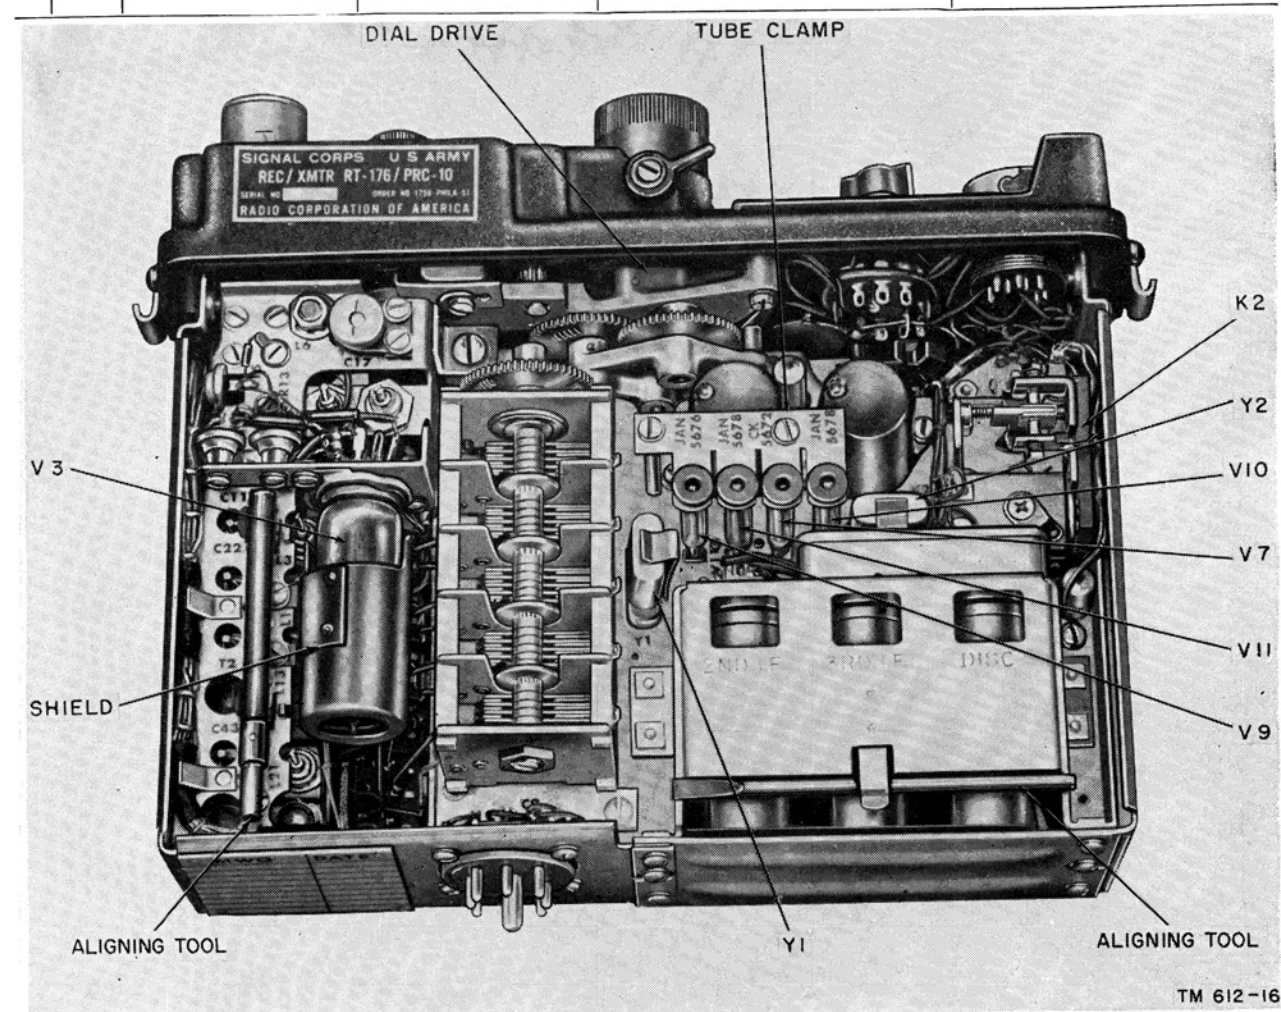
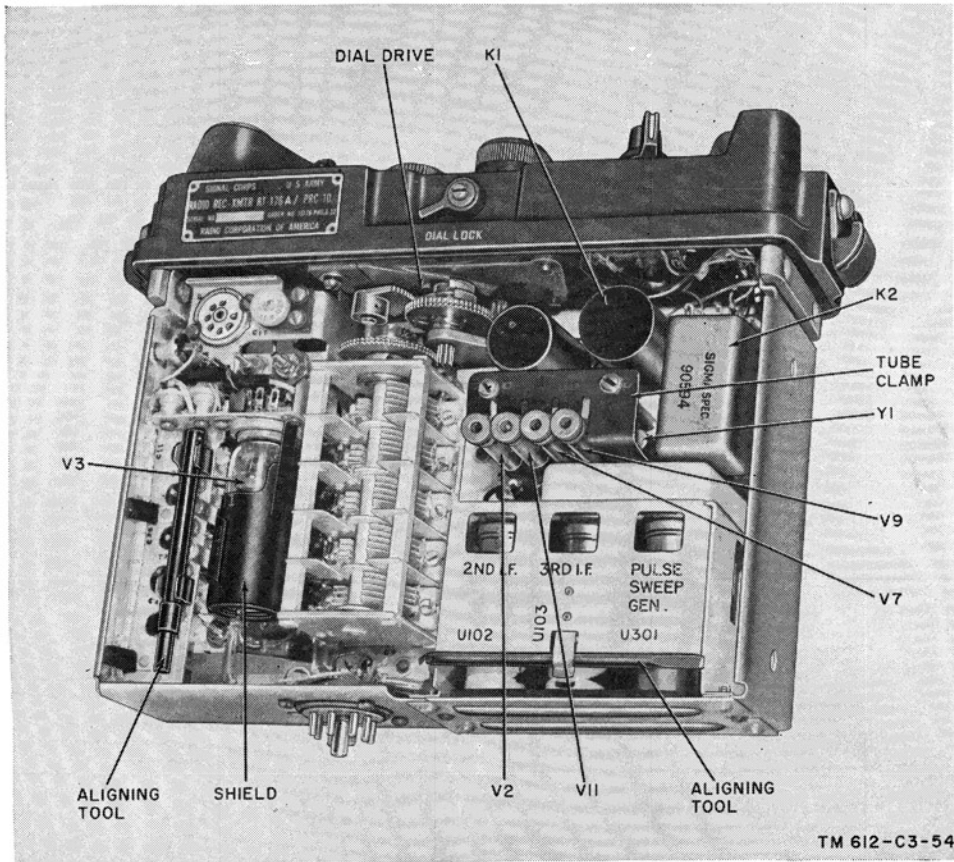

Figure 26. Receiver-transmitter chassis (unlettered models), bottom view.
Figure 28. Receiver-transmitter chassis (A models), bottom view.
d. *Corrective Measures.* The corrective measures listed are those the operator can make without returning the equipment for repairs. If the set is completely inoperative or if the recommended corrective measures do not yield results, higher echelon maintenance will be necessary (refer to TM 11-4065). However, if the tactical situation requires that communication be maintained, and if the set is not completely inoperative, the operator must maintain the set in operation as long as possible. For location of components, refer to figures 26 and 27 for the unlettered models, and to figures 28 and 29 for the A models of the receiver-transmitter.